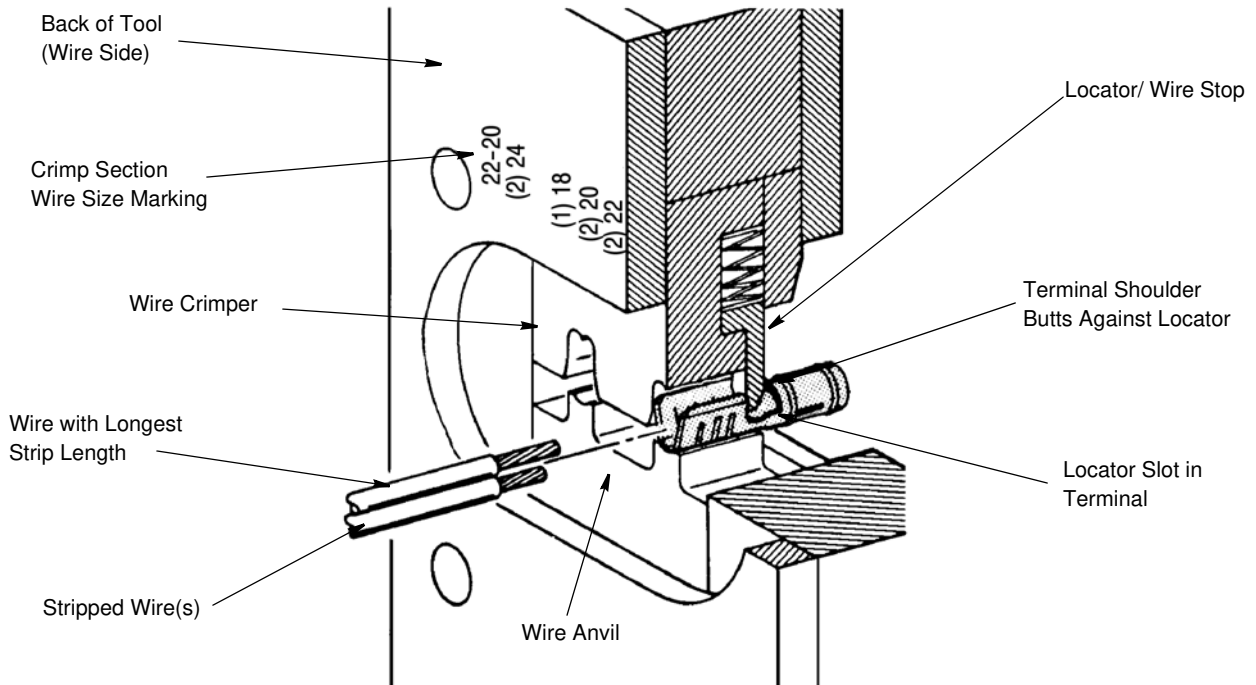

Figure 3
3. Looking straight into the back of the tool, insert the terminal (wire barrel first) into the front of the appropriate crimp section. See Figure 3.